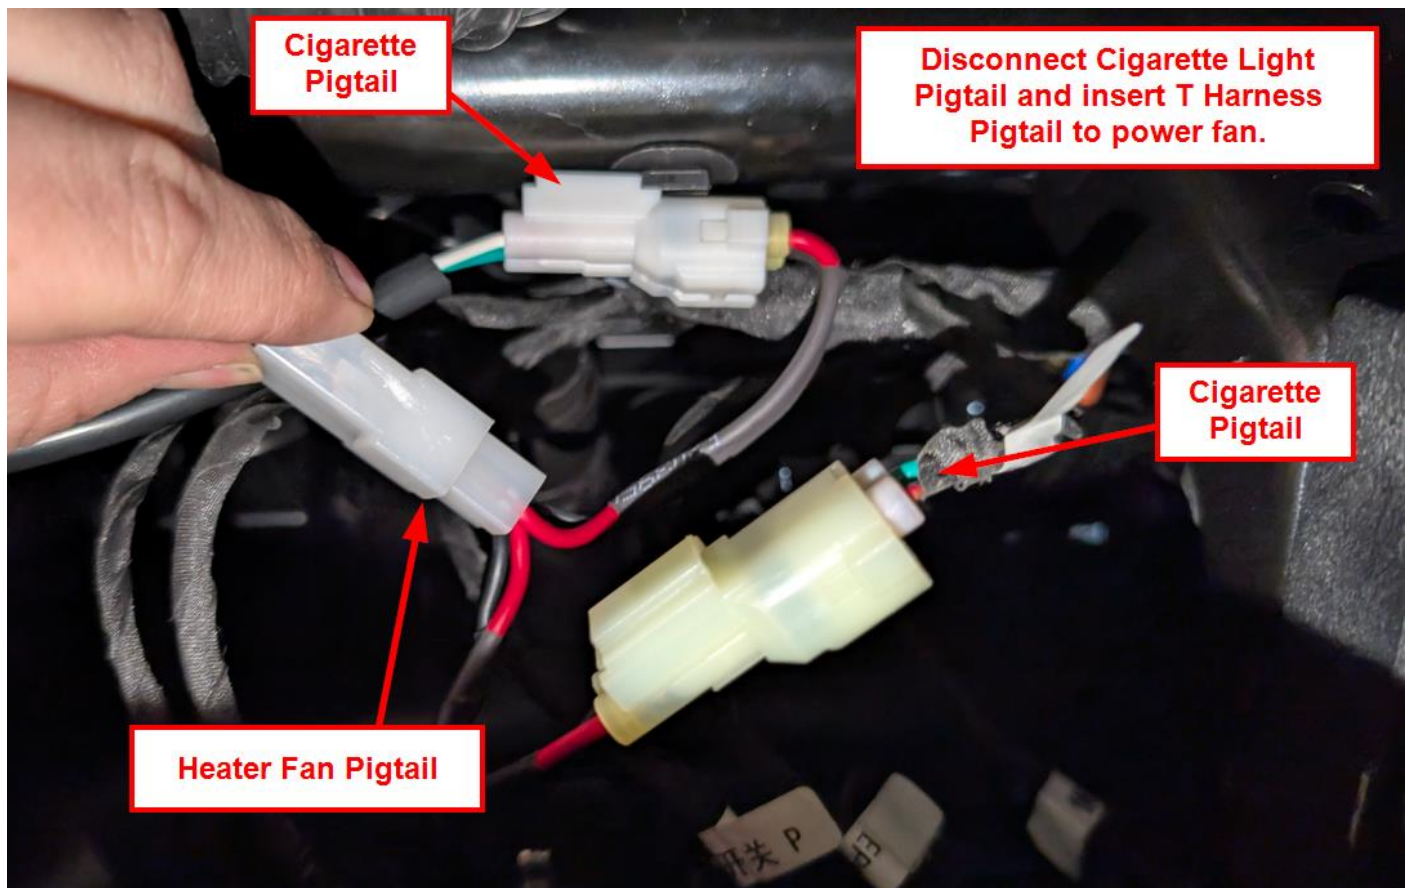

Figure 13
- a. Locate the 12V Cigarette on the Center Dash. From behind the dash, follow the short harness until it reaches a white plug. Disconnect the plug, insert the CFMoto U10 Power Pigtail between the two connections as shown in Figure 13.